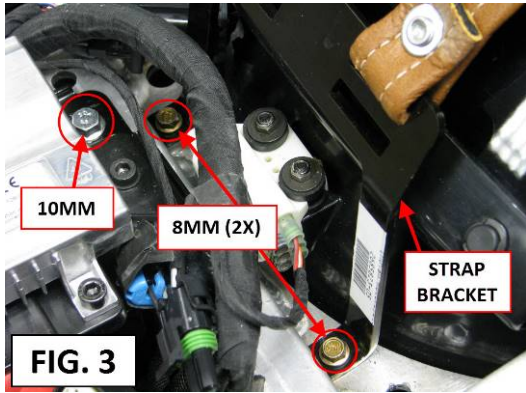

FIG. 3
- USING A 10MM SOCKET REMOVE THE SILVER COLORED BOLT SHOWN IN **FIG. 3**. THIS BOLT WILL NOT BE REUSED.
- USING AN 8MM SOCKET REMOVE THE TWO GOLD COLORED BOLTS HOLDING THE STRAP BRACKET TO THE BIKE. SEE **FIG. 3**. REMOVE STRAP BRACKET. THE STRAP BRACKET AND BOLTS WILL NOT BE REUSED.